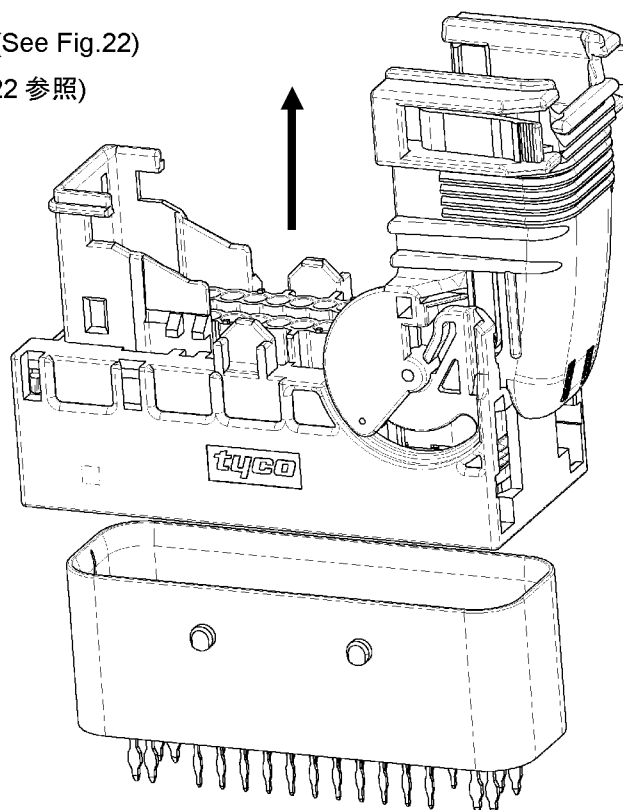

Fig.22
- (3) Release female housing from male housing. (See Fig.22)
メスコネクタをオス側から引抜いて下さい。(Fig.22 参照)